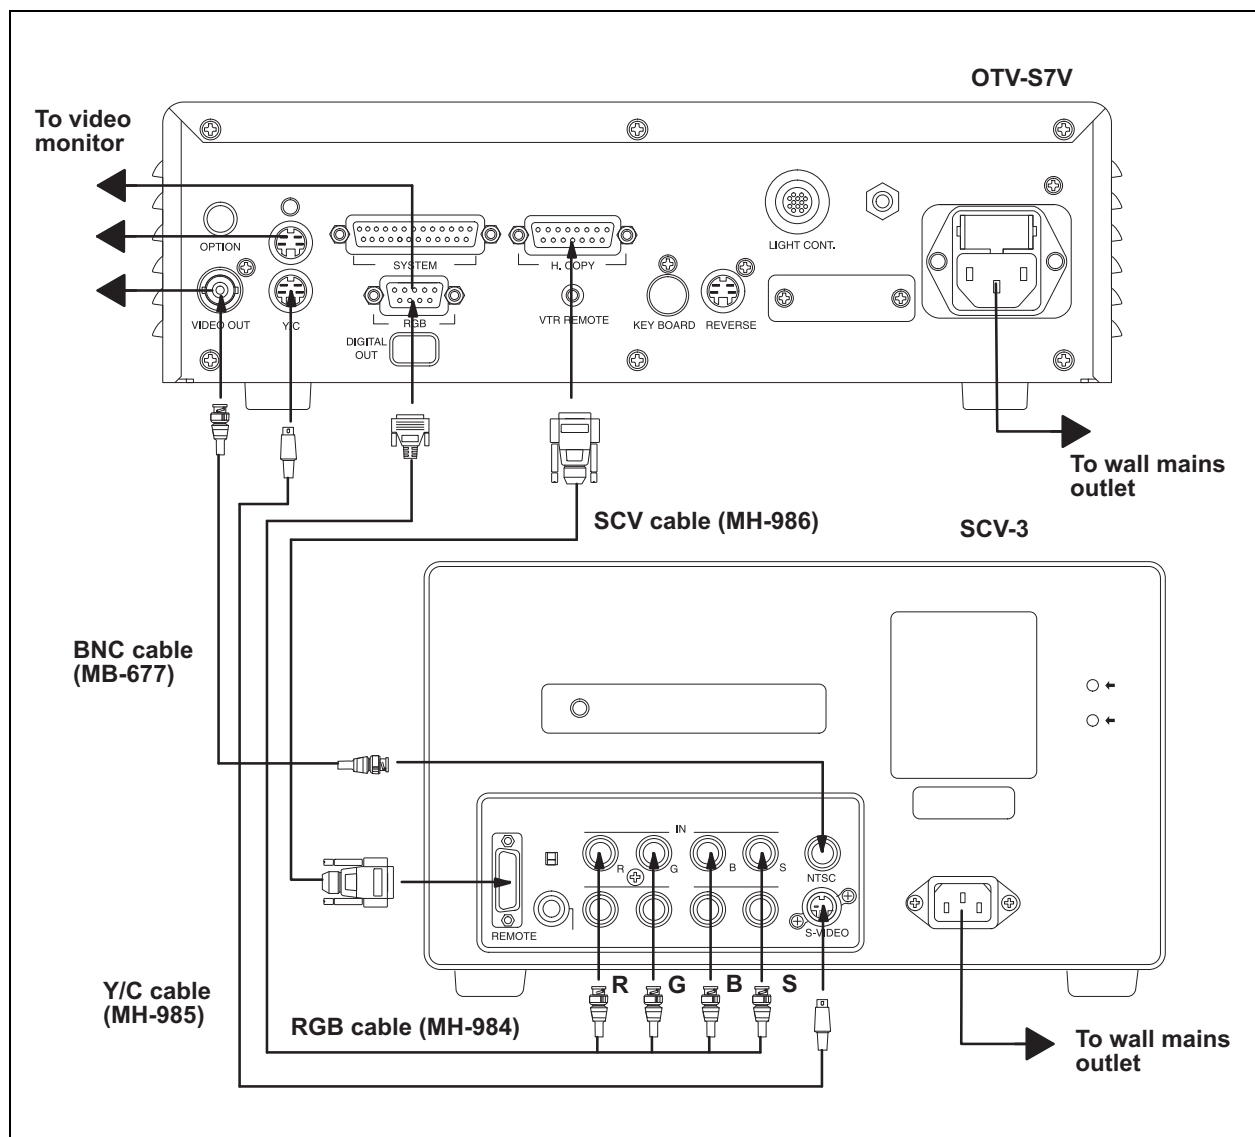

Figure 3.8
2. Connect the SCV cable and Y/C cable, BNC cable or RGB cable to the SCV-3 as shown in Figure 3.8.